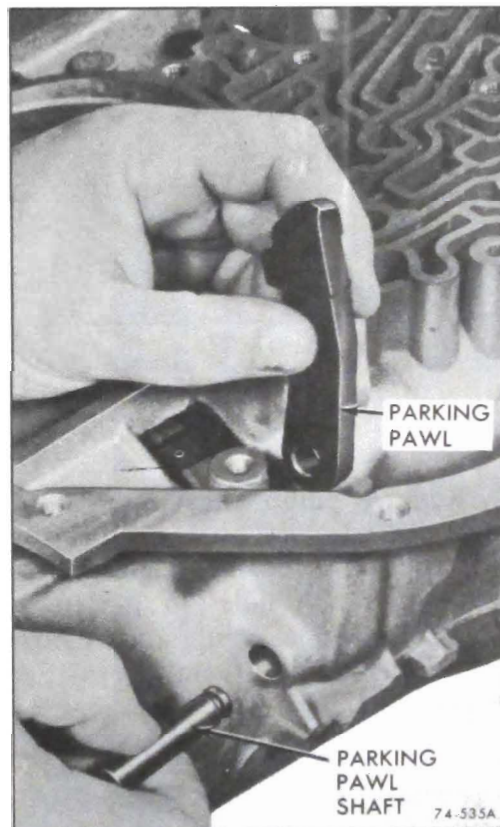

Figure 76-535
j. Remove parking pawl shaft, and parking pawl. See Figure 76-535.